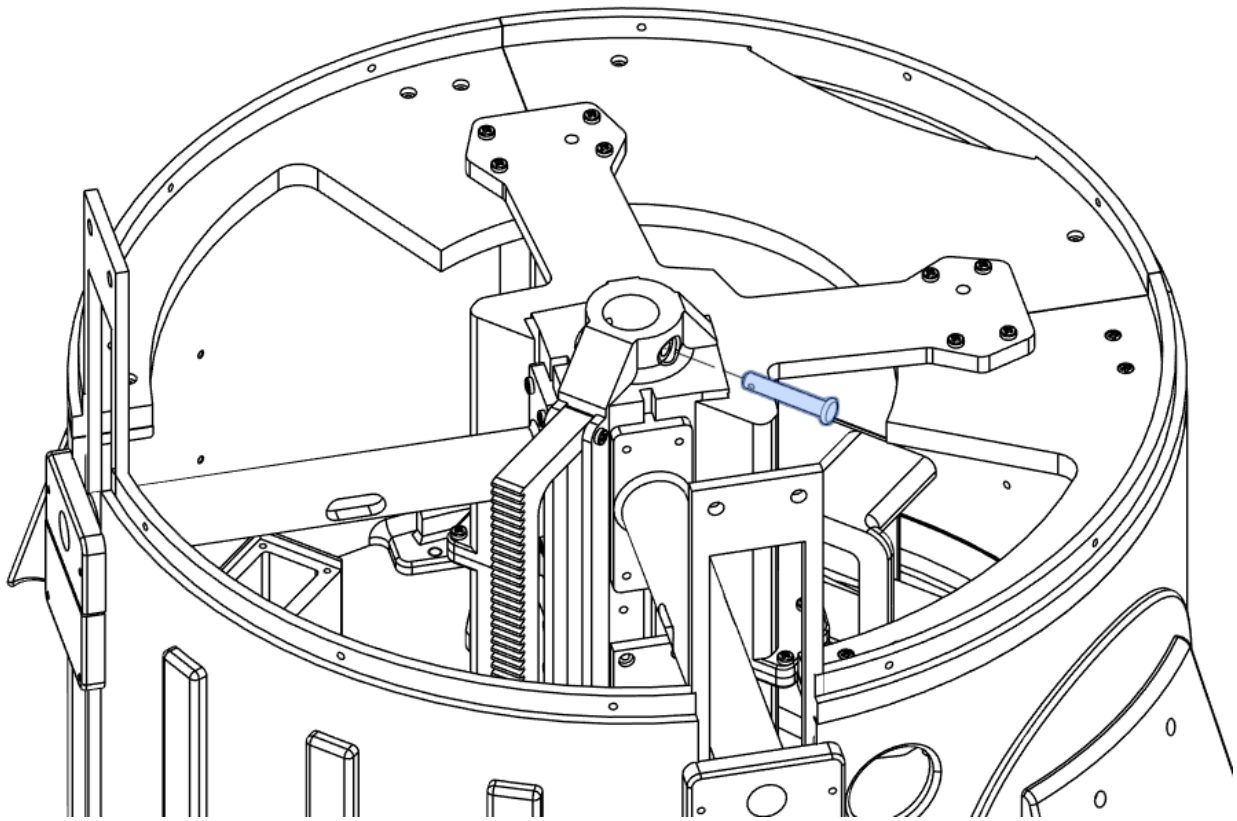
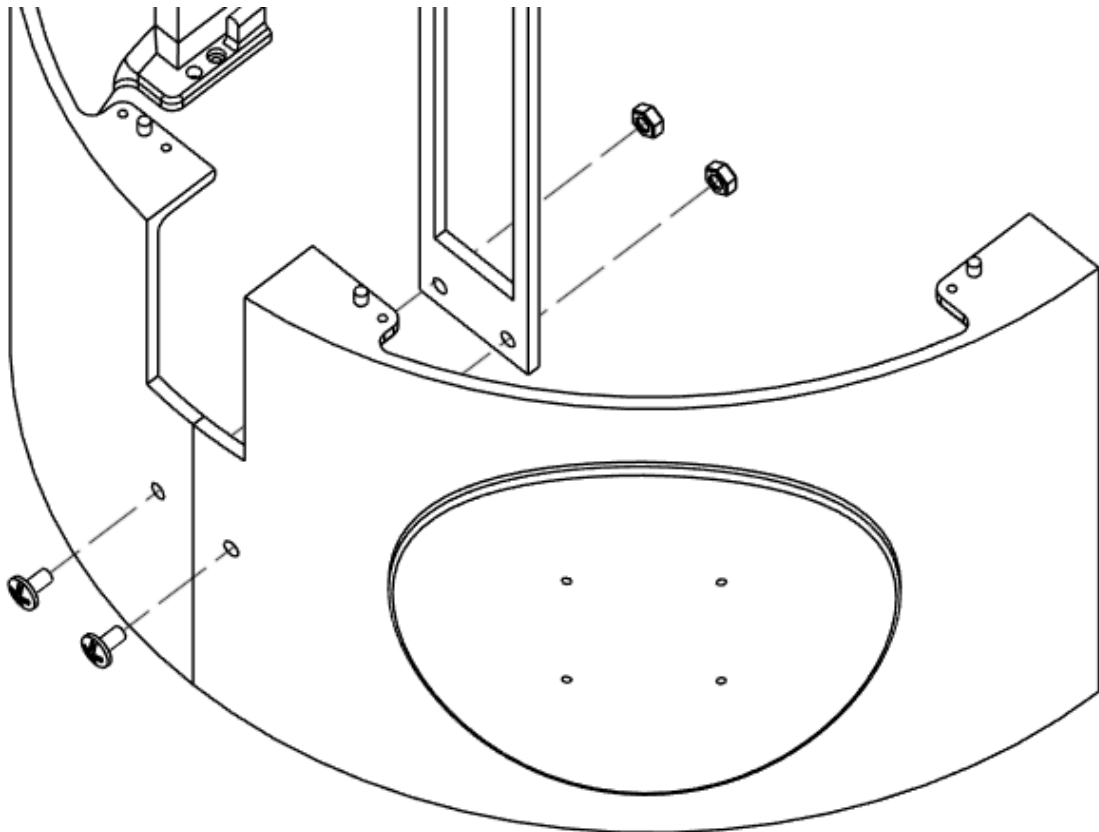

Figure 9.7 - Linear Actuator Pin Assembly
Figure 9.8 - Lower Grommet Strip Assembly
- 7. Fasten Core to Linear Actuator as shown in Figure 9.7
- a. (1) Linear Actuator Pin
- 8. Fasten Grommet Strip to 2nd Level Walls as shown in Figure 9.8
- a. (2) Grommet Strip screw
- b. (2) Grommet Strip nut